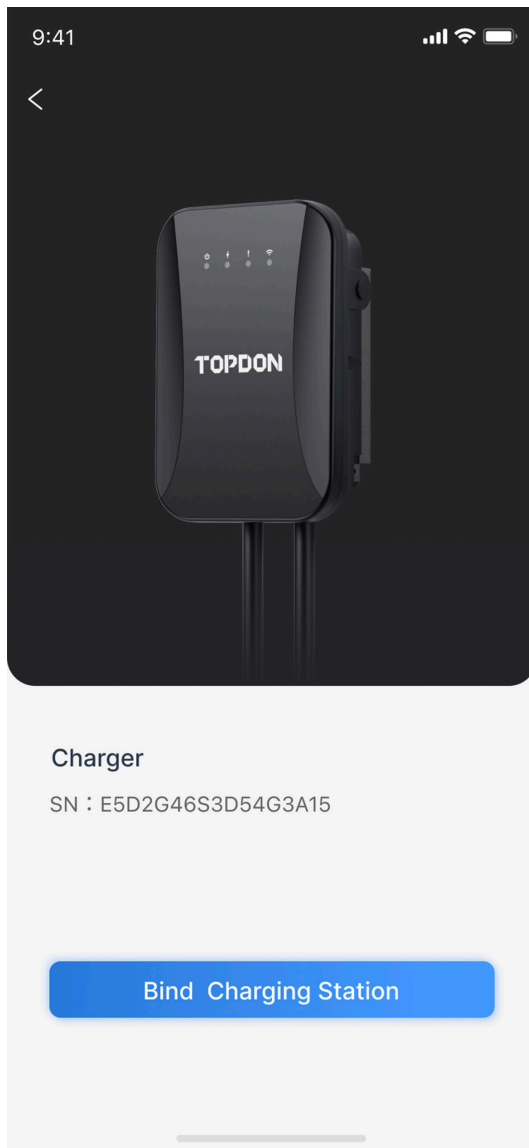

Fig.6.1.7
7. Tap the button to bind your charging station. (See Figure 6.1.7)